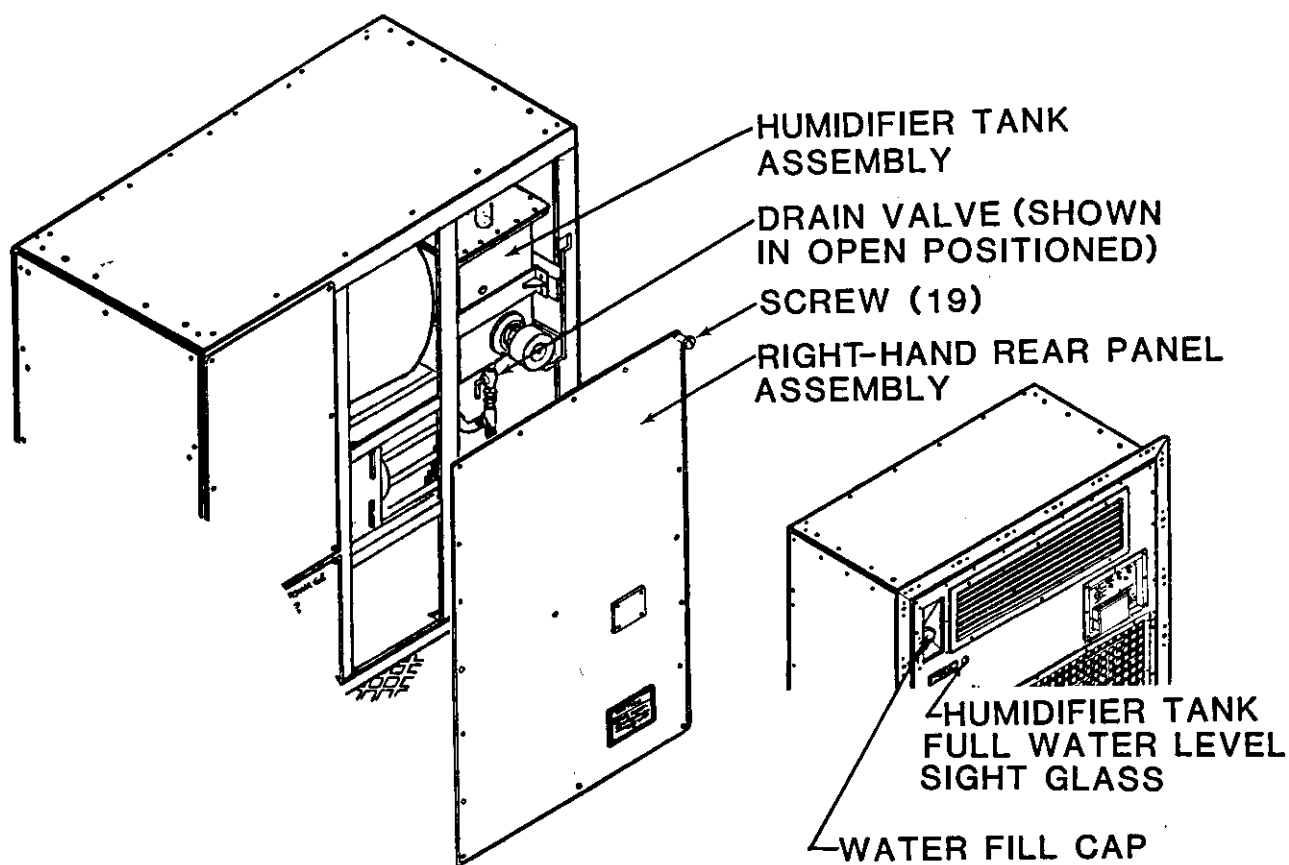

Figure 5-28. Humidifier Tank Access
- (2) Allow humidifier to cool.
- (3) Loosen nineteen screws and remove right-hand rear panel assembly.
- (4) Use a stiff brush and stainless steel wire to clean steam ports in top tube of humidifier.
- (5) Open drain valve and drain all accumulated sludge from tank.
- (6) Pour clean water into tank at filler neck until water at drain opening is clear.
- (7) Check that drain is not clogged.
- (8) Close drain valve.
- (9) Install right-hand rear panel assembly.
- (10) Fill humidifier. (See para 4-4.)
- (11) Connect power.
- b. Total cleaning, removal, inspection, and test of humidifier - approximately every six months in normal conditions. (See figures 5-28 and 5-29.)
- (1) Disconnect power.
- (4) Open drain valve and drain humidifier.
- (5) Remove screw from end of heater terminal cover and remove cover.